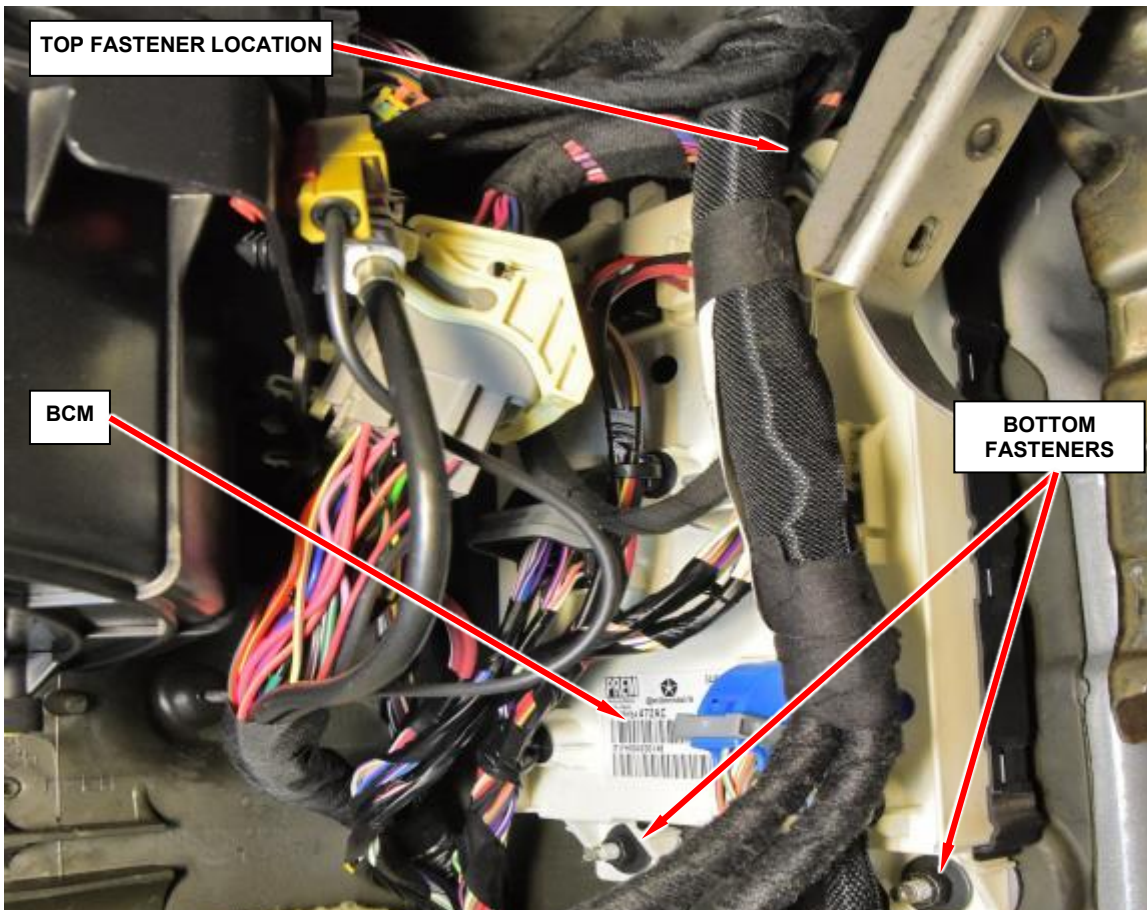

Figure 10 – Body Control Module
3. Remove and save the two fasteners at the bottom of the BCM (Figure 10).
4. Loosen the top fastener. This fastener only has to be loosened to allow removal of the BCM. It does not need to be completely removed in order to remove the module (Figure 10).